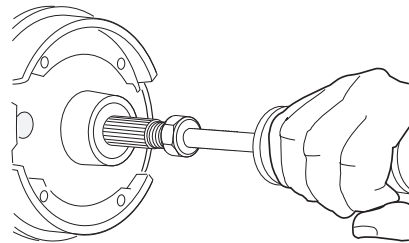

Fig. 4 Removing/Installing Axle Shaft
3. Attach a slide hammer to the axle shaft thread and remove the axle and bearing from the axle tube (Ref. Fig. 4).